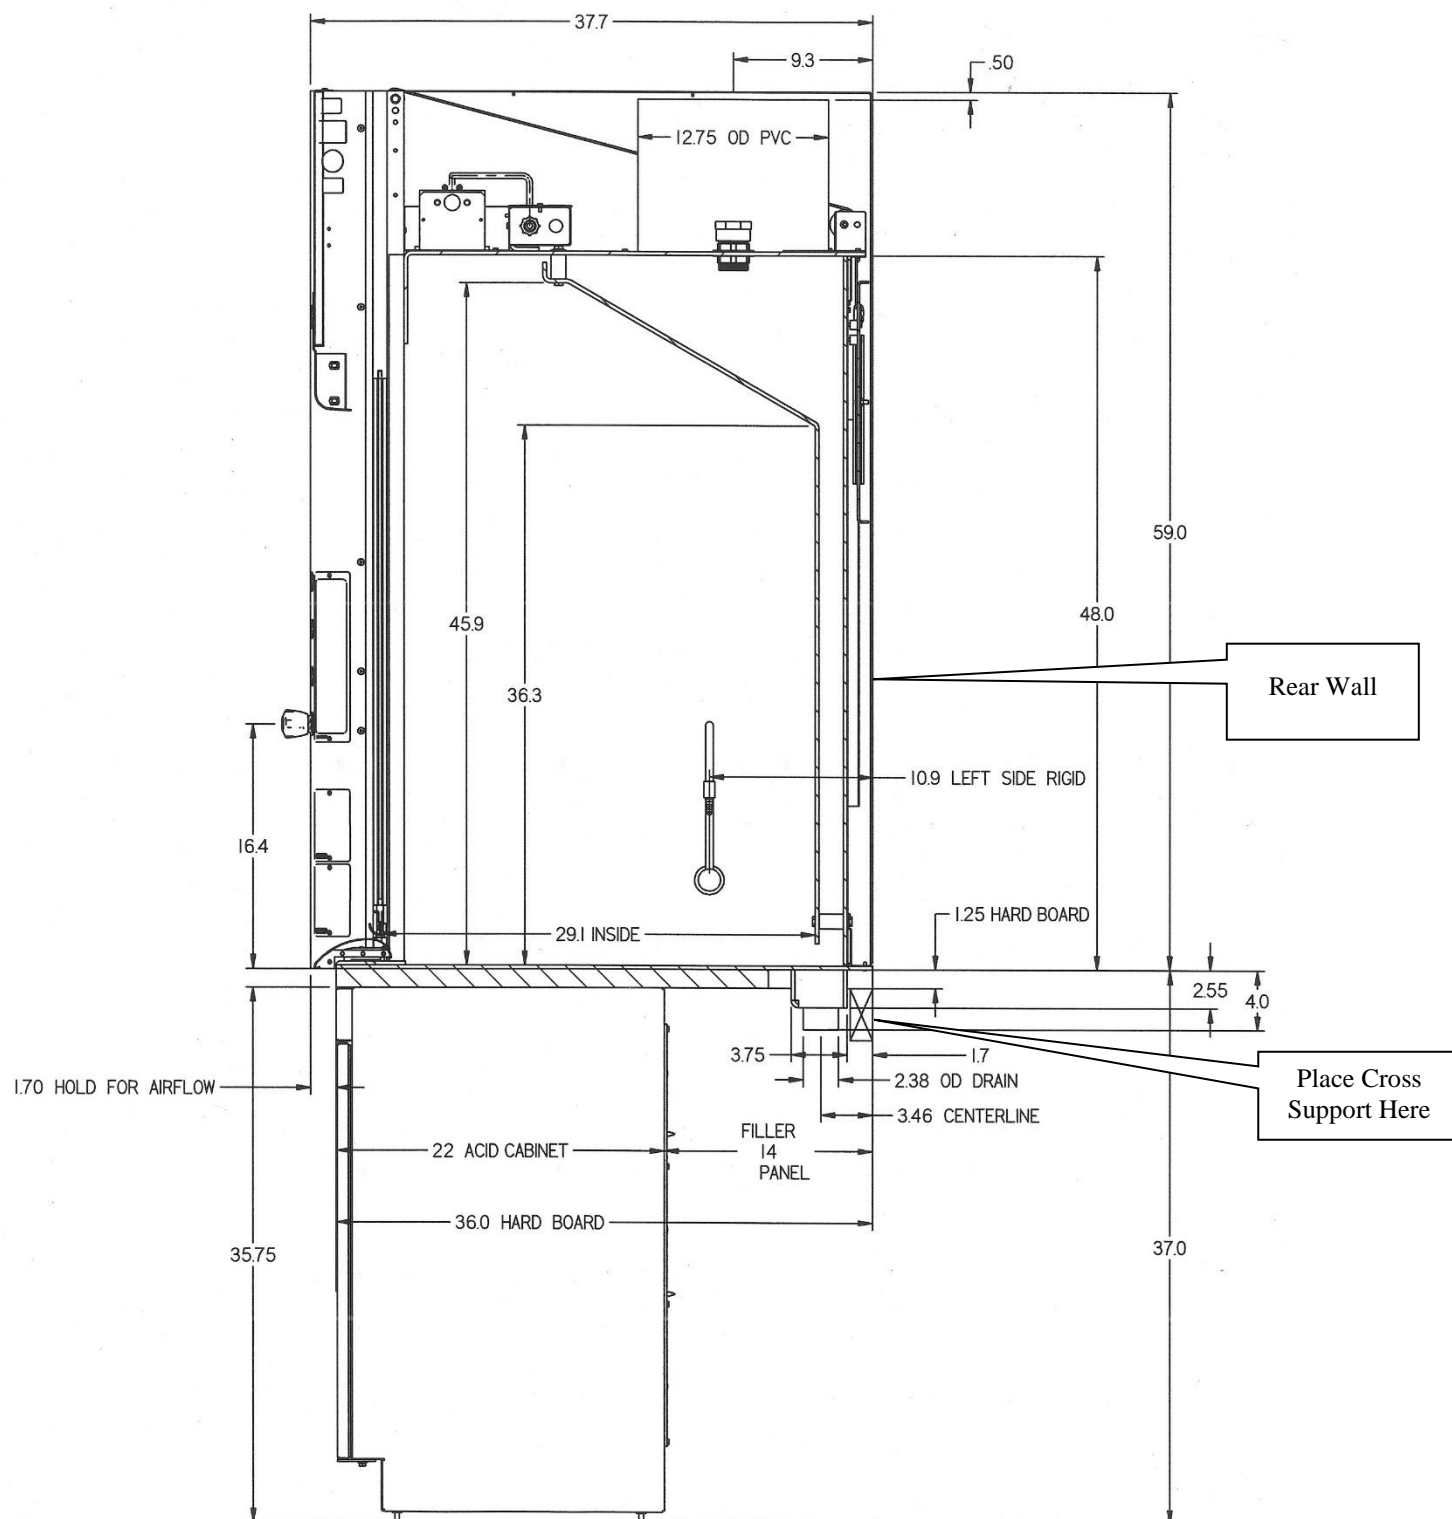

Figure 3-2
When installing the Protector PVC Hood onto the lower hardboard work top, ensure that the structure can safely support the combined weight of the fume hood and any related equipment. **The hardboard work top is aligned flush with the back of the fume hood for good airflow: this will provide the correct spacing under the air foil for proper bypass airflow. The lower base cabinets are placed flush with the front of the hardboard work top as shown in Figure 3-2. The hardboard work top supports the PVC Hood and has a cutout to clear the drain trough.**
5. Secure the hardboard surface to the top of the base cabinet(s) using adhesives with the Acid Storage Cabinet(s). Be sure the PVC Hood drain trough is accounted for in the relief area of the hardboard top. See figure 3-2.
The Protector PVC Hood has been supplied with a 2" nominal (2.375" OD) PVC pipe drain. Connect the 2" pipe to your floor drain. Be sure the connection is either fully solvent bonded or leak tight. See Figure 3-2.